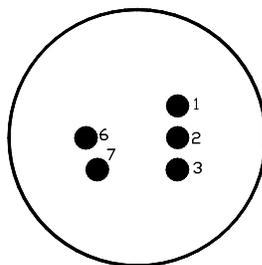

Figure 52 Sensor PCB
- Remove plug-in H₂S sensor and verify resistance between PIN 2 and PIN 3 (Shown in Figure 52) using an ohmmeter. At room temperature, the heater film's normal reading should range between 65 and 95 ohms.
- Remove plug-in H₂S sensor cell and verify resistance between PIN 6 and PIN 7 (Shown in Figure 52) using an ohmmeter. At room temperature, the sensor film's normal reading range should be 10-100 k-ohms. For sensors with an "X" in the serial number, the normal reading range should be 75 k-ohms to 2 meg-ohms. Failure would be open circuit.